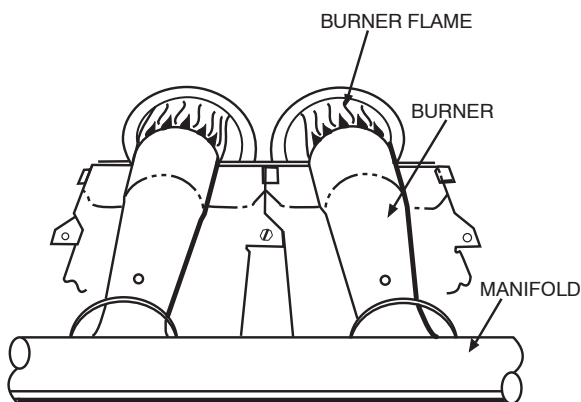

Fig. 11 - Monoport Burner
1. Inspection of all flue product passages—including the burners, heat exchanger, and flue collector box, Make sure the burner flames are blue in color and in proper adjustment. Refer to Fig. 11 for burner flame.